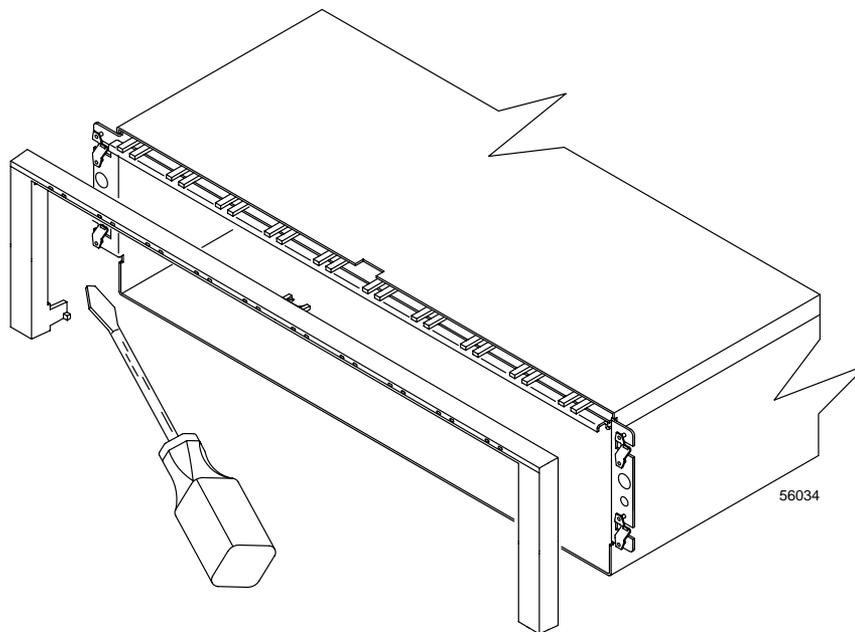

Figure 6-6 Removing the Front Bezel from the Drive Enclosure
1. Remove the front bezel from the drive enclosure (Figure 6-6).
4. Slide the top of the front bezel over the indicator lights and snap into place (Figure 6-6).